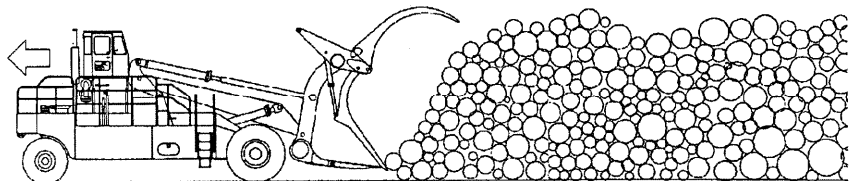

Fig 4-14
4. Continue backing and lowering until all the logs are out of the carriage. See Fig. 4-14